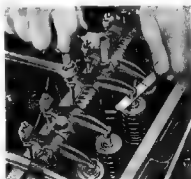

Fig. 26—Valve Tappet Adjustment
3. Check the clearance between the rocker arms and the valve stems with a feeler gauge (fig. 26). The clearance should be as follows:
4. When adjustment is necessary loosen the rocker arm adjusting screw lock nut and turn the screw clockwise slightly to decrease clearance and counterclockwise to increase clearance (fig. 26). Tighten lock nut and recheck clearance.